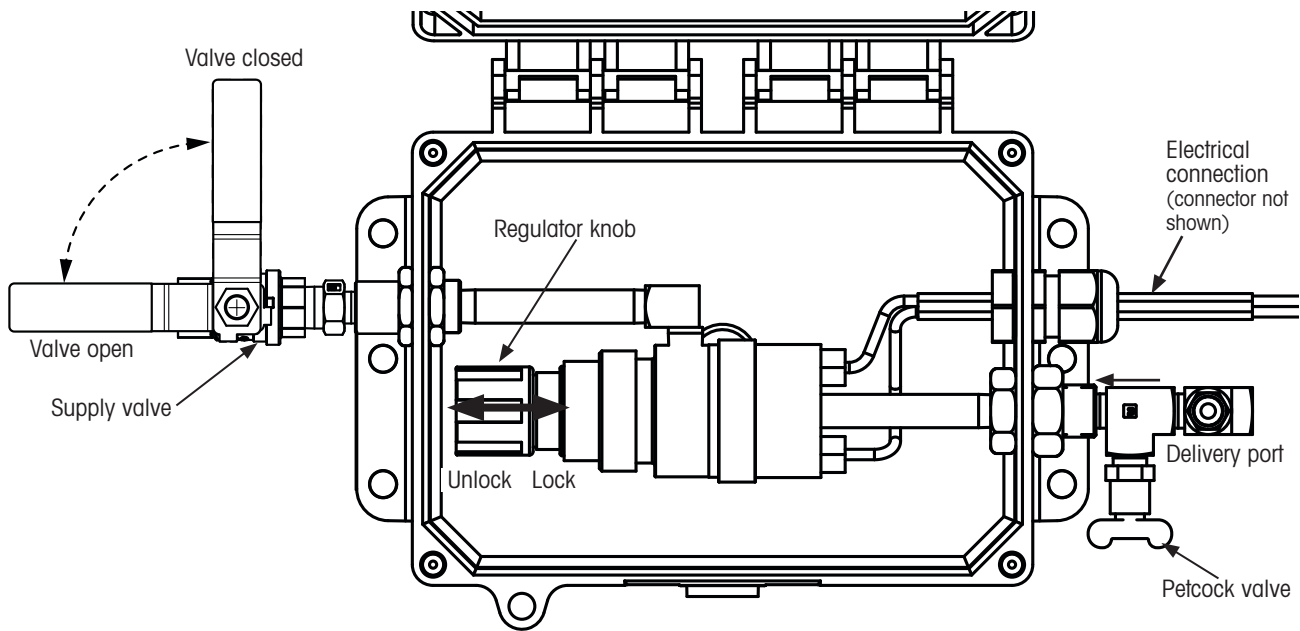

Figure 50: Setting TIREMAAX® CP target pressure with IPCU
Follow this procedure to check pressure in the delivery line (Figure 50) for TIREMAAX CP systems.
3. **Close** controller supply valve on the supply line (Figure 50).
- A. **Close** supply valve (Figure 50).
1. **Unlock** the regulator knob by pulling it away from the regulator body (Figure 50).
1. **Lock** regulator knob by pushing it in toward the regulator body (Figure 50). Ensure knob will not rotate.